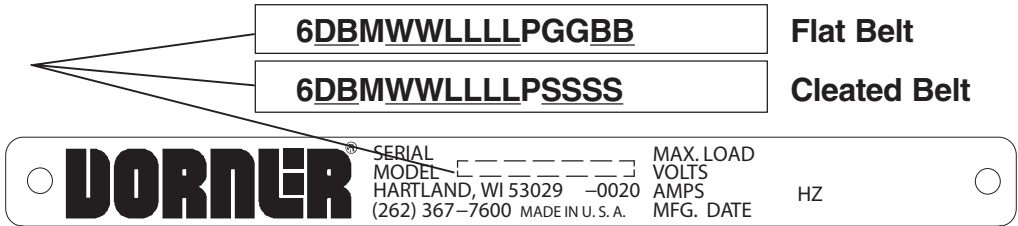

Figure 58
Refer to your serial and model number plate (Figure 58). From the model number, determine conveyor width (WW), length (LLLL), and belt type (BB). Use data to configure belt part number as indicated below.
Refer to your serial and model number plate (Figure 58). From the model number, determine conveyor type (D), width (WW), length (LLLL), belt cleat type (B) and cleat spacing (SSSS). Use data to configure belt part number as indicated below.